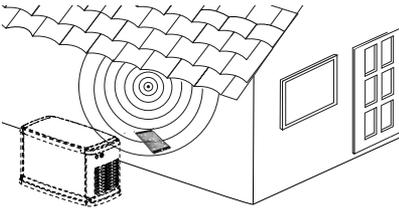

Figure 2-3. Test Wi-Fi Signal Strength
1. See **Figure 2-3**. Position a mobile device in the proposed generator installation location.